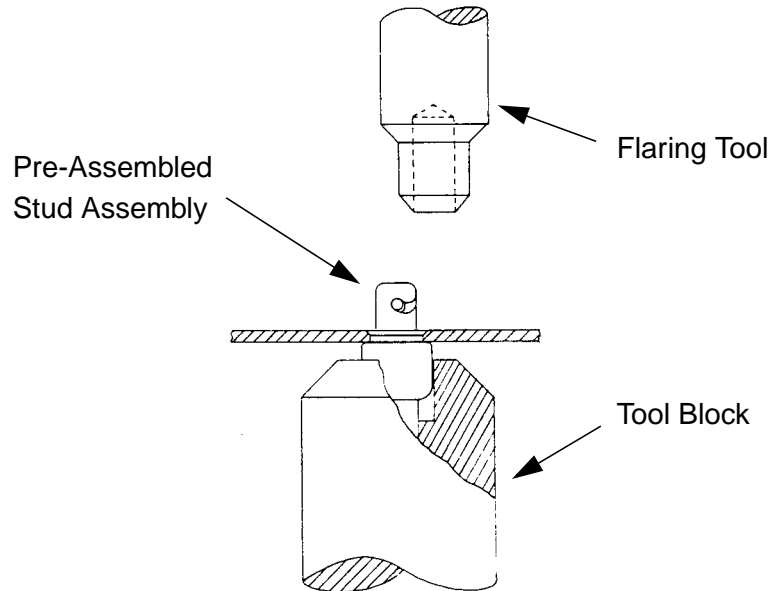

Figure 4 - Installation of Pre-Assembled Stud Assemblies using a Power Driven Installation Tool
5.3.2 Install pre-assembled stud assemblies using a Dzus TTPT35A or DFCI Solutions Inc. 9920-1620-35-1 power driven tool installation set as follows (see Figure 4):